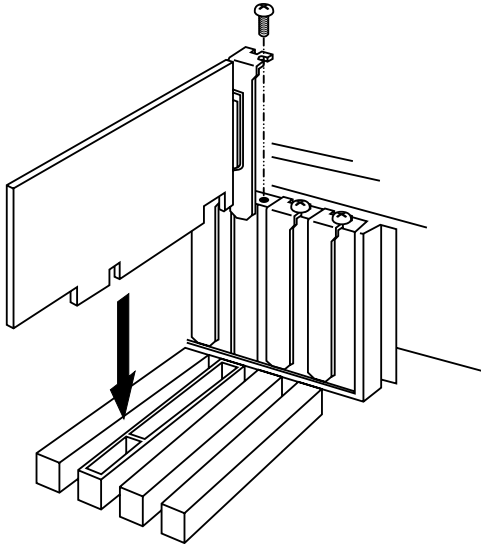

Figure 4-1. Inserting the Adapter in a PCI slot.
6. Holding the SCSI Host Adapter by the mounting bracket and card edge, with it oriented so that the external connectors are facing the right way, insert the Adapter in the PCI slot. Press it down firmly so the contacts are securely seated in the slot. See Figure 4-1 on the next page.